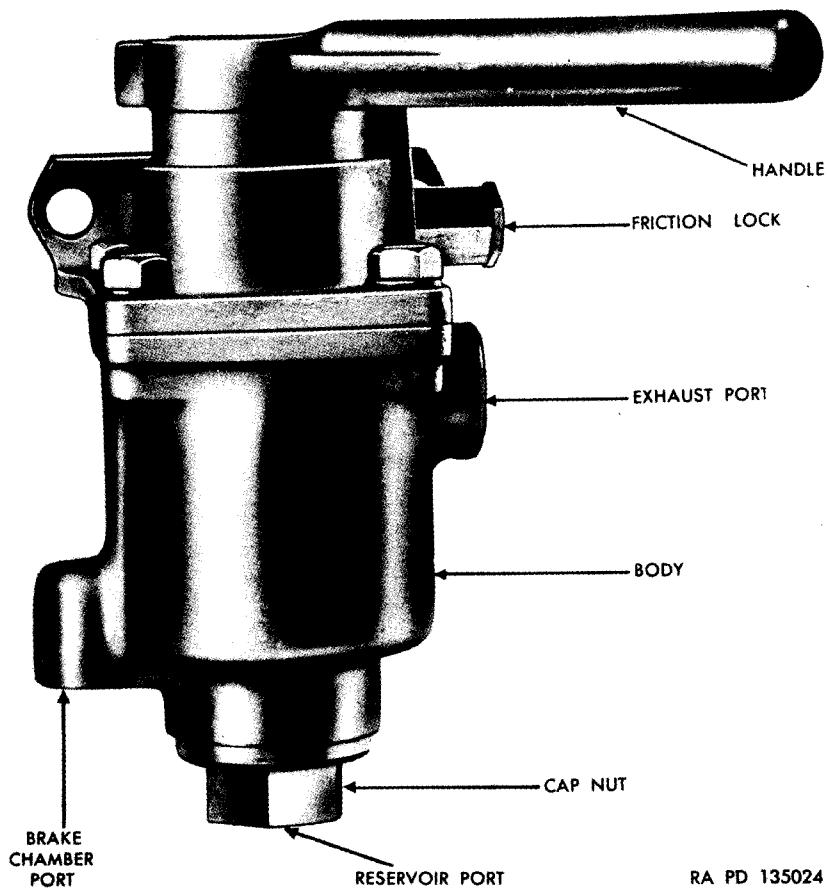
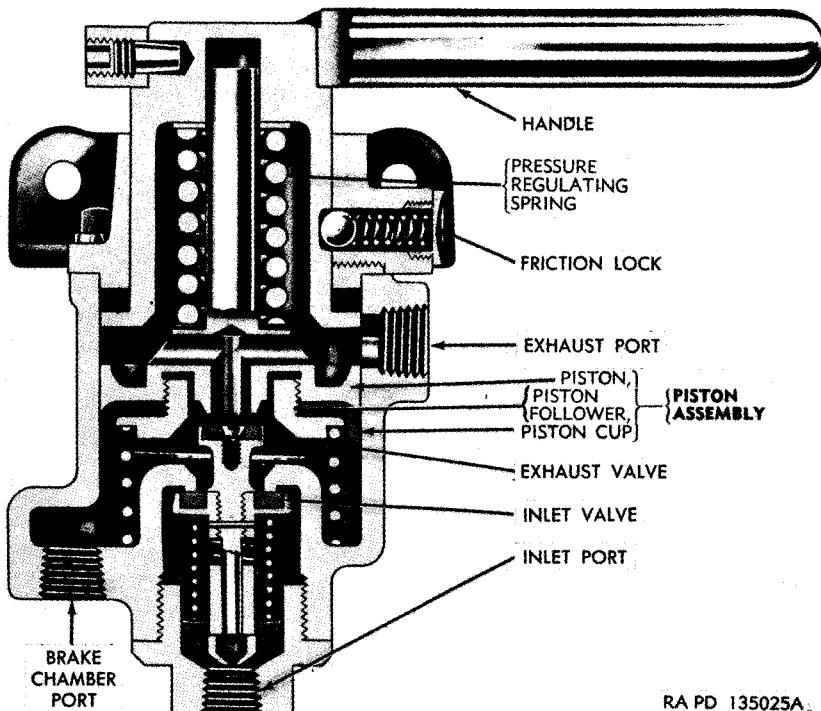
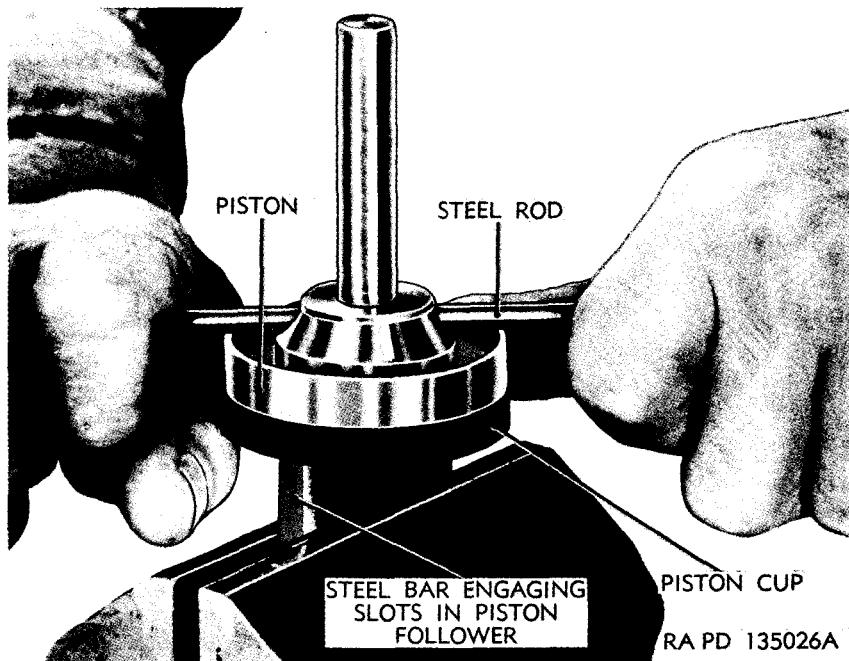
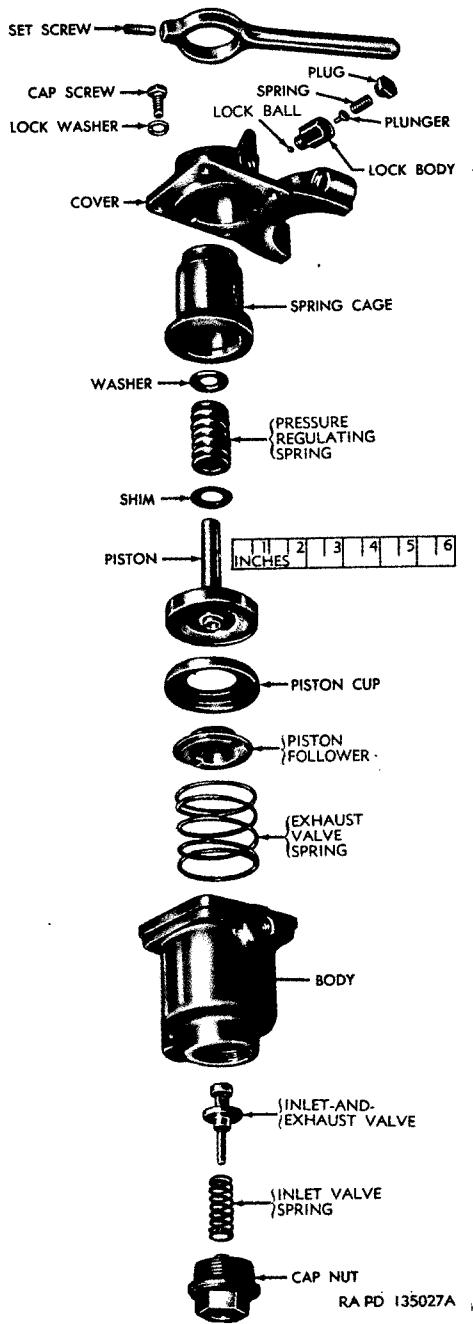

Figure 103. Type HP brake valve.
Figure 104. Sectional view—type HP brake valve.
Figure 105. Disassembly of piston assembly.
Figure 106. Type HP brake valve—exploded view.
a. *Description* (fig. 103). Type HP brake valves are used for controlling the brakes on a trailer independently of the brakes on the towing vehicle. They are usually mounted on the steering column or on the instrument panel and the driver may put the handle in any one of several positions between released and fully applied so that the brakes on the trailer are kept applied until the brake valve handle is returned to released position. The distance the brake valve handle is moved in a
b. Operation (fig. 104).
- (1) As the handle of the brake valve is moved toward applied position, a force is exerted on the top of the pressure regulating spring and the piston assembly moves downward. When this happens, the exhaust valve seat engages the exhaust valve and closes the passage to the exhaust port. The exhaust valve and the inlet valve are part of the same assembly; therefore, after the exhaust valve is closed and the piston assembly continues its movement downward, the inlet valve is forced off its seat. This permits air pressure from the reservoir to pass through the inlet valve and out the connection leading to the service line and the brakes on the trailer.
- (2) As soon as the air pressure below the piston assembly overcomes the mechanical force on top of it, the piston assembly lifts, the intake valve closes, cutting off any further air supply, and the exhaust valve remains closed, preventing any loss of air pressure through the exhaust port. Any further movement of the handle toward fully applied position adds additional mechanical force on top of the piston assembly and correspondingly increases the delivered air pressure.
- (3) If the brake valve handle is moved toward released position, the mechanical force on top of the piston assembly is decreased. This permits the air pressure below the piston assembly to lift it slightly, thus opening the exhaust valve and permitting air pressure to exhaust from the service line until a lower air pressure is established to balance the lesser mechanical force acting on top of the piston assembly.
- (4) In this manner, the brake application on the trailer may be graduated during both application or release of the brakes and the position of the brake valve handle always determines the air pressure being delivered through the service line to the trailer brake equipment.
- (5) The handle of the brake valve is fitted with a friction lock so it will remain in whatever position it is placed by the driver. The brake valve should never be used, however, to hold the brakes applied when vehicles are being parked or when the driver is off duty. If the vehicles are parked on a hill or grade, other precautions, such as blocking the wheels, must be taken as there is a possibility that leakage in the system may eventually reduce the air pressure sufficiently to release the brakes.
- a. Remove set screw from handle and lift handle from spring cage (fig. 106).
- b. Remove plug holding friction lock parts and remove spring, plunger, lock body, and ball from cover (fig. 106).
- c. Remove cover by removing four cap screws and lock washers which secure cover to body (fig. 106). Remove washer, pressure regulating spring, and shims from piston (fig. 106). Pull piston assembly out of body and lift out exhaust valve spring (fig. 106). Remove spring cage from cover.
- d. Disassemble piston assembly by engaging slots in piston follower with a steel bar held in a vise and unscrew piston using a steel rod (fig. 105). Remove piston follower and piston cup (fig. 106).
- e. Remove cap nut from body and lift out inlet-and-exhaust valve and inlet valve spring (fig. 106).
- (1) *Piston bore.* Check piston bore in body for scoring or other damage. Check bore diameter. If diameter exceeds 2.133 inches, replace body. Replace body if bore is 0.004-inch out-of-round.
- (2) *Piston fit.* Piston must be a sliding fit in body.
- (3) *Piston cup.* Check condition of piston cup. Replace, if worn thin or if the sharp edges are damaged.
- (4) *Valve seats.* Check inlet-and-exhaust valve assembly to be sure rubber seats are in good condition. Do not attempt to replace seats. Replace complete valve assembly, if seats are damaged.
a. *Inlet-And-Exhaust Valve Assembly* (fig. 106). Place inlet valve spring and valve assembly in cap nut, with rubber seats toward top of valve. Install cap nut and tighten securely.
b. *Piston* (fig. 106). Place piston cup on piston and install piston follower. Tighten follower with steel bar and rod (fig. 105) sufficiently to make a good air seal on piston cup, but not enough to distort cup.
c. *Install Piston Assembly* (fig. 106). Lubricate piston cup with graphite grease (soft), position exhaust valve spring in body and enter piston into body over exhaust spring. Extreme care must be used when installing piston assembly as piston cup is easily damaged. Install shim or shims, pressure-regulating spring, and place washer over piston stem and on spring.
d. *Install Cover* (fig. 106). Enter spring cage in cover and place cover in position on body over piston. Position cover so mounting bracket is at rear when brake chamber port is at left (fig. 103). Install four cap screws and lock washers and tighten securely.
e. *Friction Lock* (fig. 106). Install lock body and tighten. Place lock ball, plunger, and spring in body. Install and tighten plug.
f. *Handle* (fig. 106). Place handle in position on spring cage and secure with set screw.